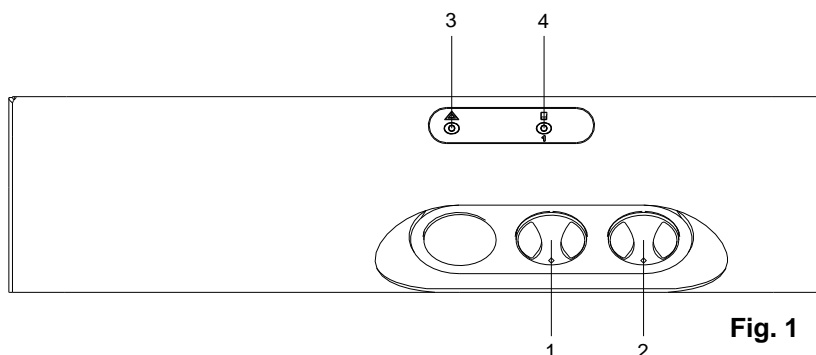

Fig. 1
LEGEND (see fig. 1)
- b) Turn ON/OFF switch to ON position (make sure power light comes on) (see fig. 1)